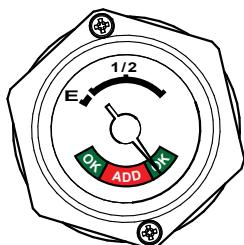

Figure 15. Propane Tank Fuel Gauge
- Read the propane fuel gauge (Figure 15) located on top of the propane tank.